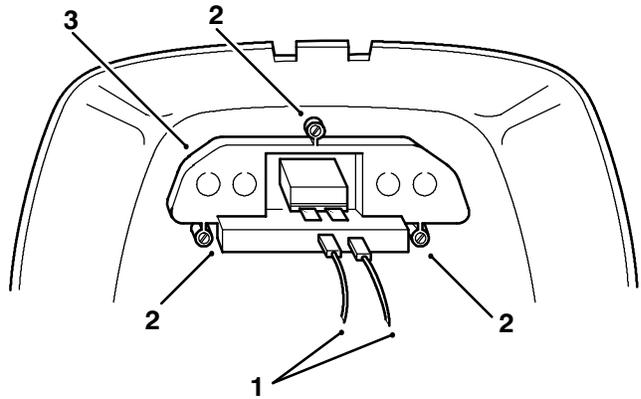

Figure 2
1. Disconnect connectors from the hour meter mounted on the tractor (Fig. 2).
2. Remove three Phillips screws securing original dash insert and lens (Fig. 2). Slide the insert and lens out of the dash.